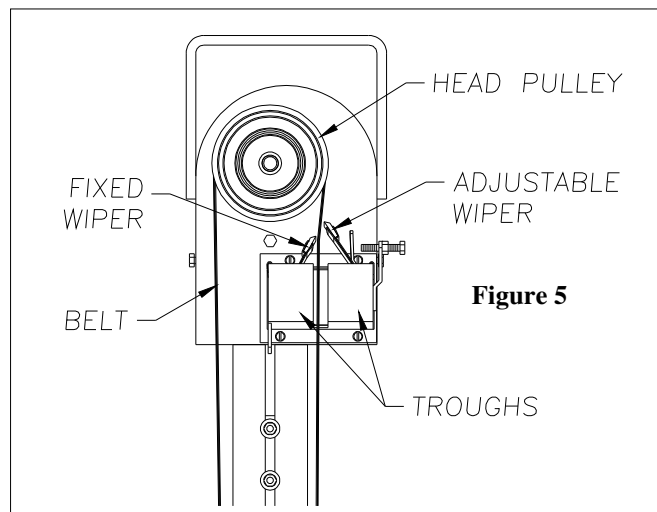

Figure 5
Step 7. Hold belt with both hands about 9" from the top and gently bend it into a large loop. Insert the belt through the wiper blades, troughs and over the head pulley. Lower it in place onto the head pulley, making sure it is centered. (See Fig. 5)